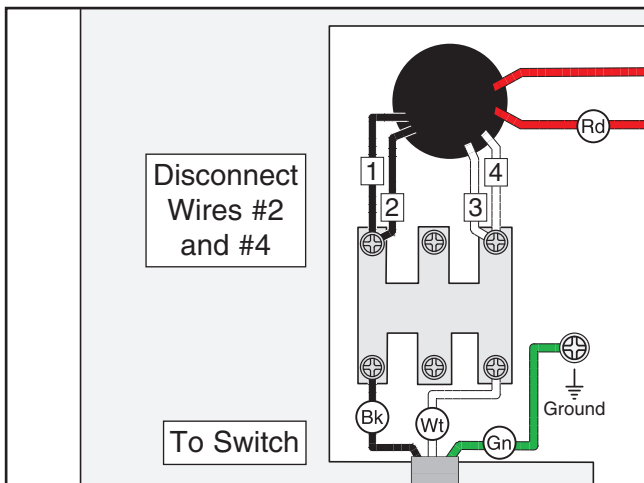

Figure 6. Inside motor junction box (motor pre-wired to 110V).
3. Open motor junction box, disconnect wires #2 and #4 (see **Figure 6**).